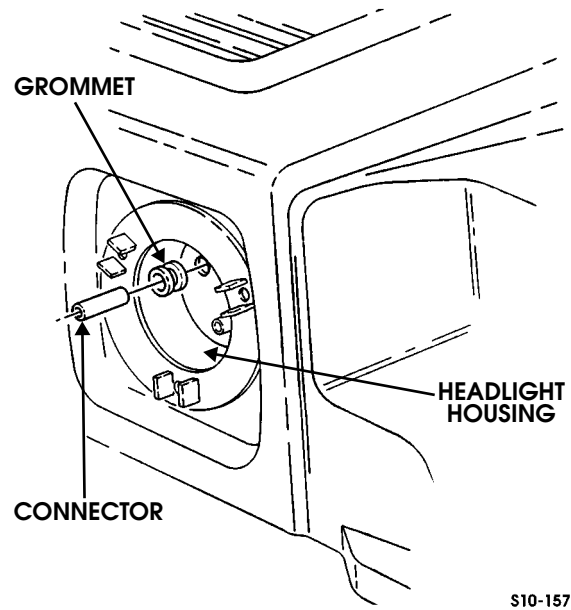

Figure 10-179: Headlight Electrical Connector and Grommet Replacement
2. Remove connector from grommet (Figure 10-179).
1. Install grommet in headlight housing (Figure 10-179).